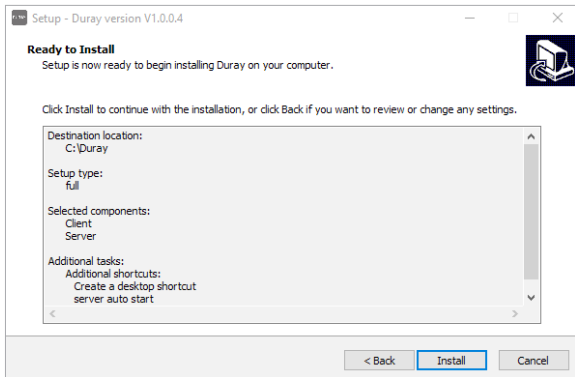

Figure 6
e) Click the “Install” button to start the installation, as shown in Figure 6: